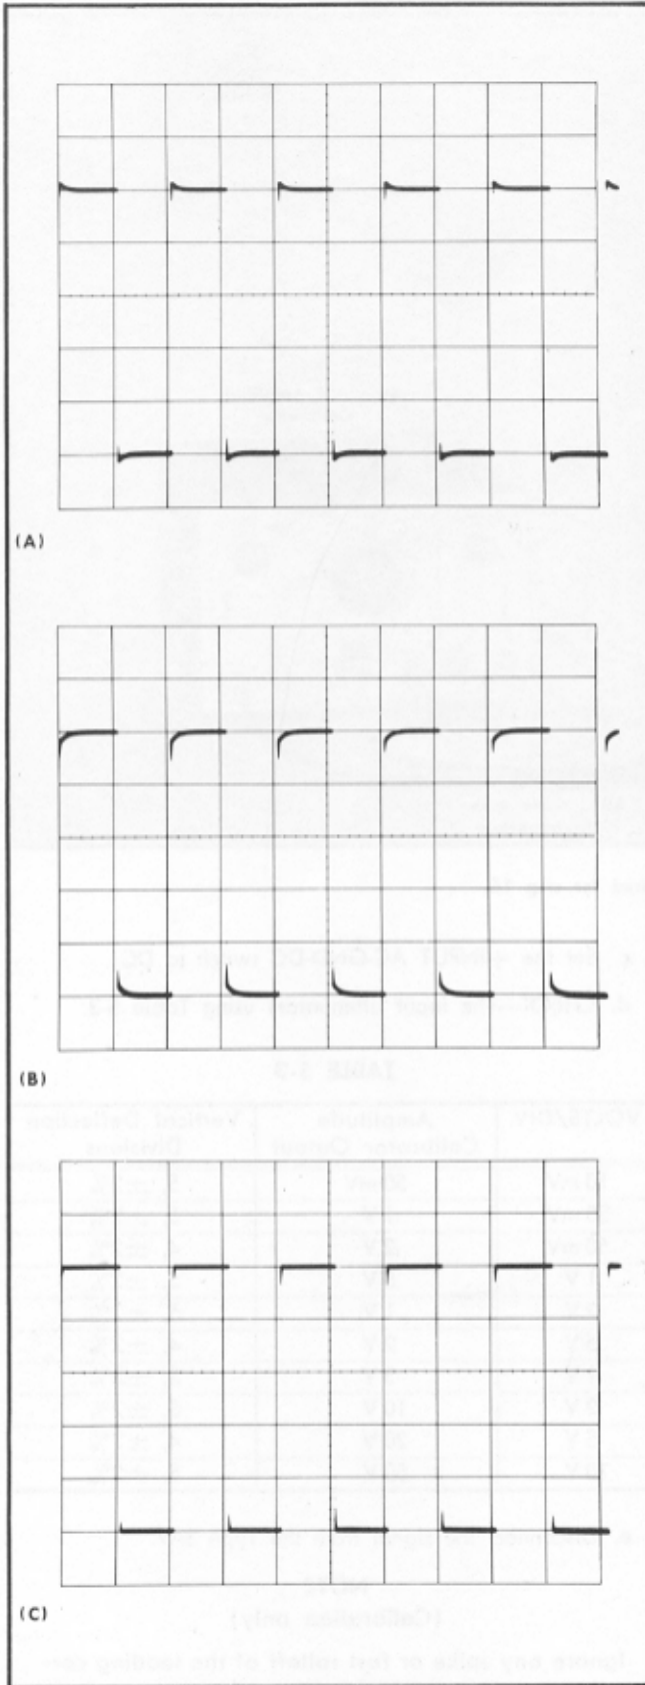

Fig. 5-15. Typical waveforms showing (A) and (B) C212 misadjusted and (C) C212 correctly adjusted.
- CHECK—The square wave upper leading corner for aberration (see Fig. 5-15).